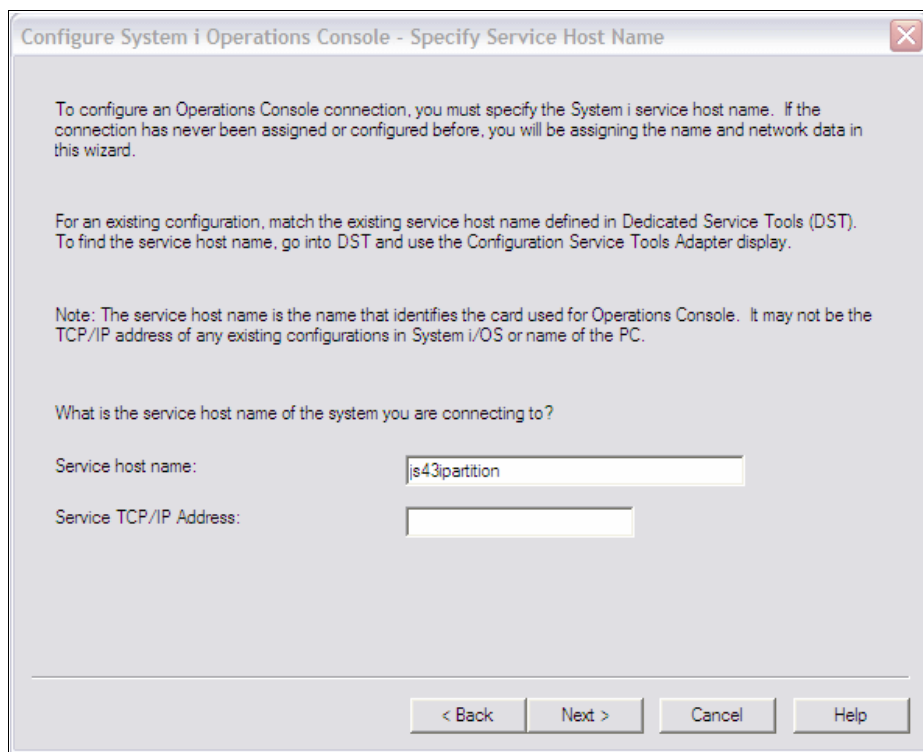

Figure 7-37 IBM System i Operations Console - enter the Service host name
4. The System i service hostname must be defined first to establish a connection to the BladeCenter JS23/JS43 blade; see Figure 7-37 on page 284.